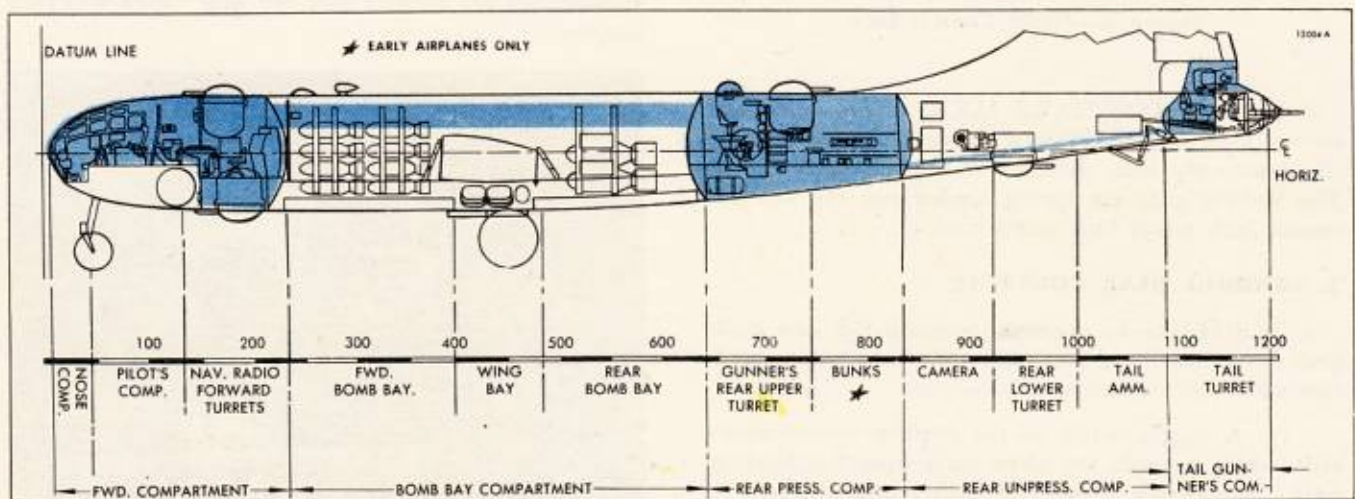

Figure 4—Pressurized Compartments Diagram
a. GENERAL.—The B-29 very heavy bombardment airplane is designed for long range and high altitude operation. Auxiliary fuel tanks can be carried in both of the bomb bays. The tricycle landing gear and the tail skid are fully retractable, so that the aerodynamic cleanness of the airplane is not spoiled in flight. The wing spread is 141'3". In taxiing position the height of the tail is 29'6.7". The 99 foot long all metal fuselage is of semi-monocoque type, and is divided into compartments as shown in figure 4. Three of these compartments can be pressurized to afford comfort for the crew at extremely high altitudes. The forward pressurized compartment and the rear pressurized compartment are connected by a tunnel through